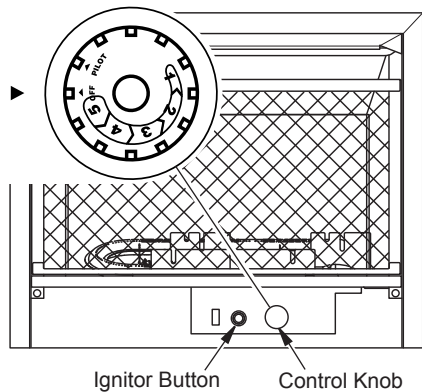

Figure 21 - Ignitor Button and Control Knob Locations
4. Wait five (5) minutes to clear out any gas. Then smell for gas around heater and near the floor. If you smell gas, STOP! Follow "B" in the safety information above. If you do not smell gas, go to the next step.
5. Turn control knob counterclockwise  to the PILOT position. Press in control knob for five (5) seconds (see Figure 21).